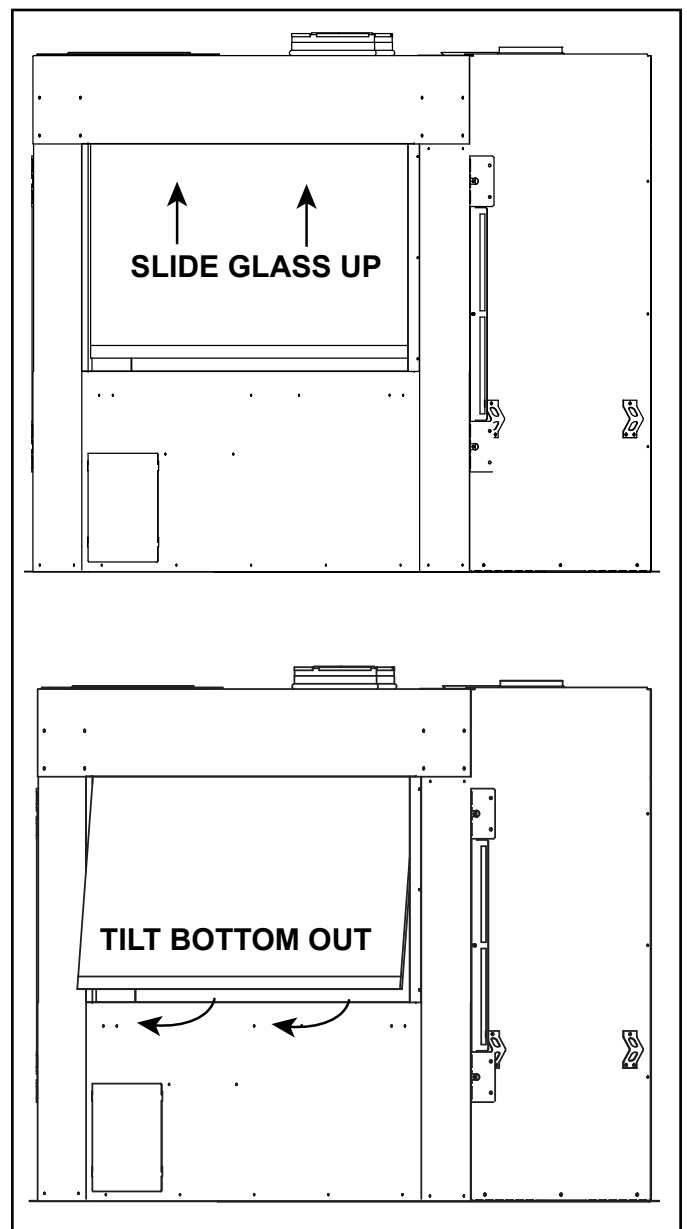

Figure 11.28 Barrier Glass Removal
3. Lift glass straight up into the top cavity, tilt the bottom out and remove glass from the appliance. See Figure 11.28.